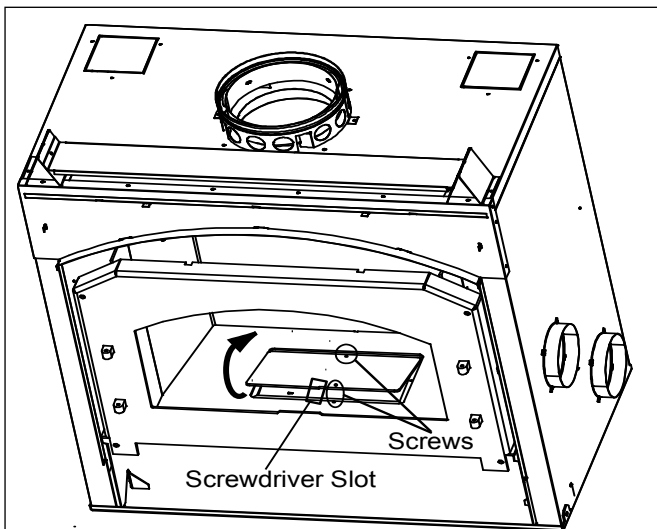

Figure 4.8 Accessing Fan Motor
2. Remove the 2 screws from the access panel in the firebox floor. See Figure 4.8.